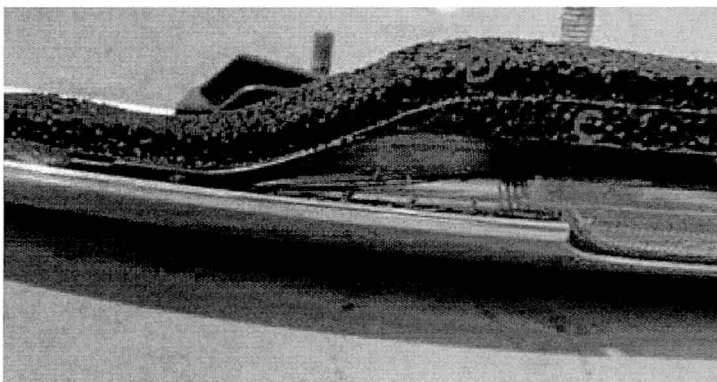

Figure 5
6. Seal D should pass over seal C creating a double seal thickness on the stop lamp moulding (see Figure 5)